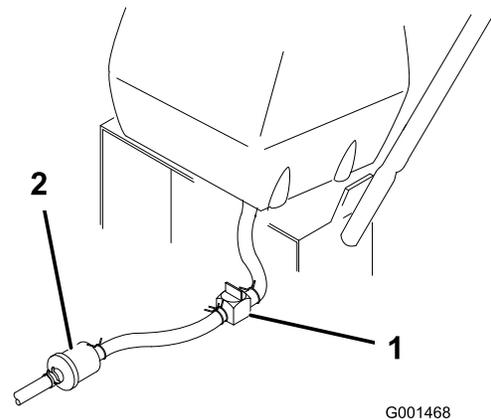

Figure 26
2. Close the fuel shut-off valve at the fuel tank (Figure 26).
3. Squeeze the ends of the hose clamp together and slide it up the fuel line away from fuel filter (Figure 26).
4. Pull the fuel line off the fuel filter (Figure 26). Open the fuel shut-off valve and allow the gasoline to drain into a gas can or drain pan.
3. Close fuel shut-off valve at the fuel tank (Figure 26).
- 7. Open fuel shut-off valve at fuel tank (Figure 26).